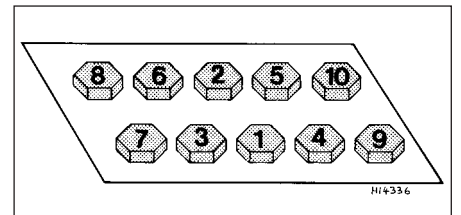

Fig. 1.7 Cylinder head bolt tightening sequence (Sec 7)
**14** Unscrew the cylinder head securing bolts half a turn at a time in the reverse order to that shown in Fig. 1.7; don't forget the one within the inlet manifold. When all the bolts are no longer under tension they may be unscrewed from the cylinder head one at a time. This will also release a section of the cooling system pipe secured by two of the bolts. All the bolts have washers.